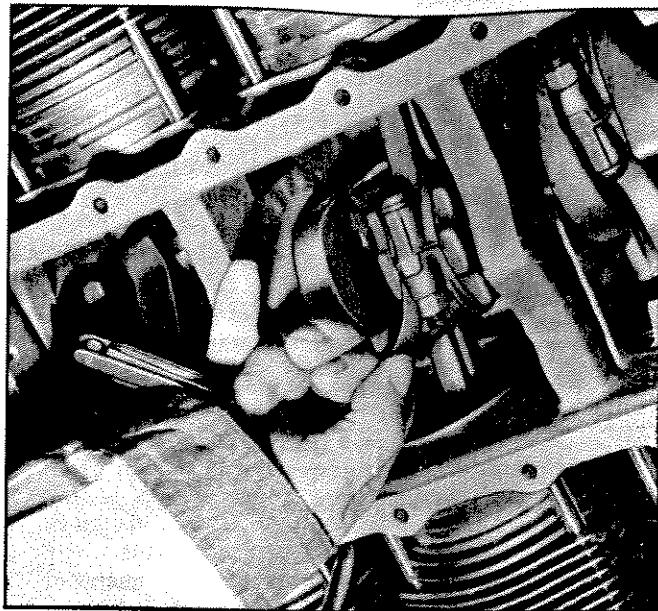

Fig. 65—Connecting Rod Side Clearance
15. When all cylinder, piston and connecting rod assemblies have been installed, check side clearance (fig. 65).